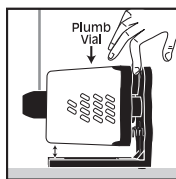

Fig.4
2. Level the instrument by viewing the plumb vial and turning the front leveling screw until the plumb vial bubble is centered (Fig. 4).